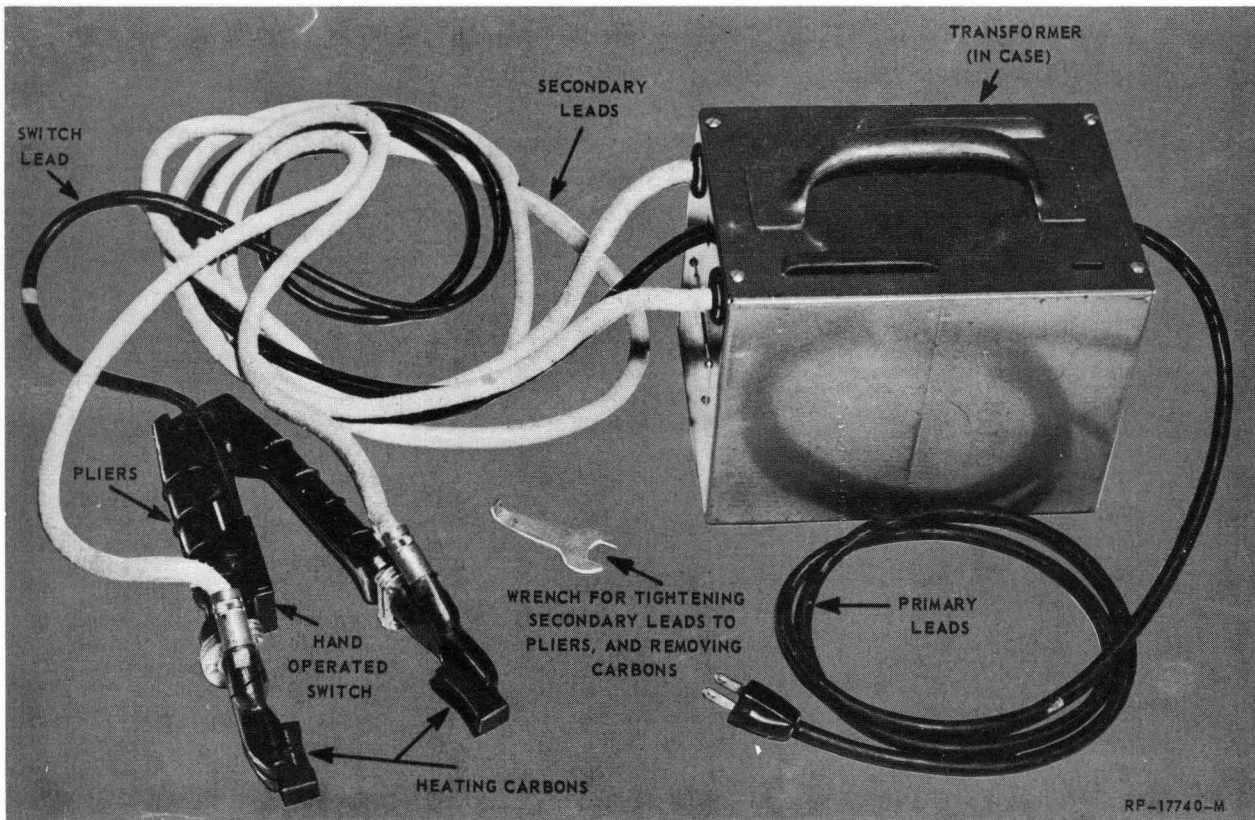

FIG. 3 R-2666-A THERMO-GRIP PLIERS (PAR. 4.11)
4.11 To heat terminal lugs with R-2666-A thermo-grip pliers (Figure 3) clean the surfaces of the lug to insure good electrical contact with the carbon jaws of the pliers.